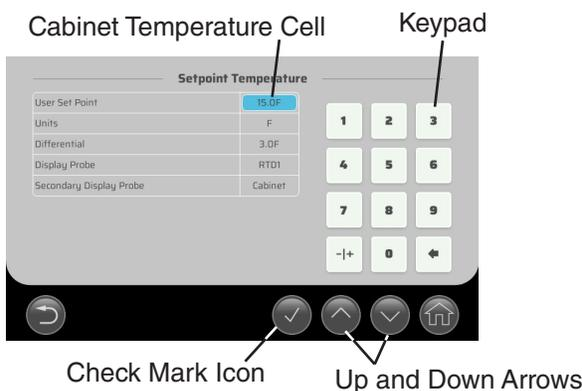

**Fig. 3**
- Press and release anywhere on the screen. The touchscreen setup view is shown. See Fig. 3.